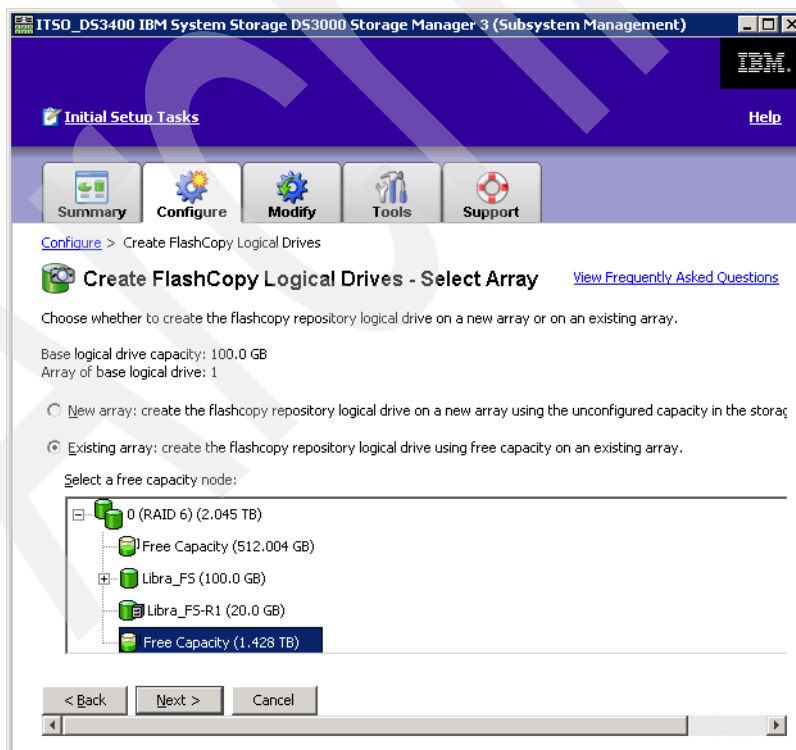

Figure 9-68 FlashCopy - select capacity type
2. The Select Capacity Type view appears (Figure 9-68). You can configure your FlashCopy repository logical drive to reside in any array. However, to make it easier to move disk drives, put the FlashCopy repository logical drive in the same array as the base logical drive. When you do this, if disk drives associated with the array are moved to another storage subsystem, all logical drives associated with the FlashCopy logical drive also reside in that group. Also, no more disk drives need to be moved.
If you decide to create the FlashCopy Logical drive in a new array, select **Unconfigured capacity** option and click **Next** to create an array. The process to create a new array is discussed in “Unconfigured capacity” on page 170. Alternatively, as shown in Figure 9-68 on page 193, select **Free Capacity** and click **Next**.